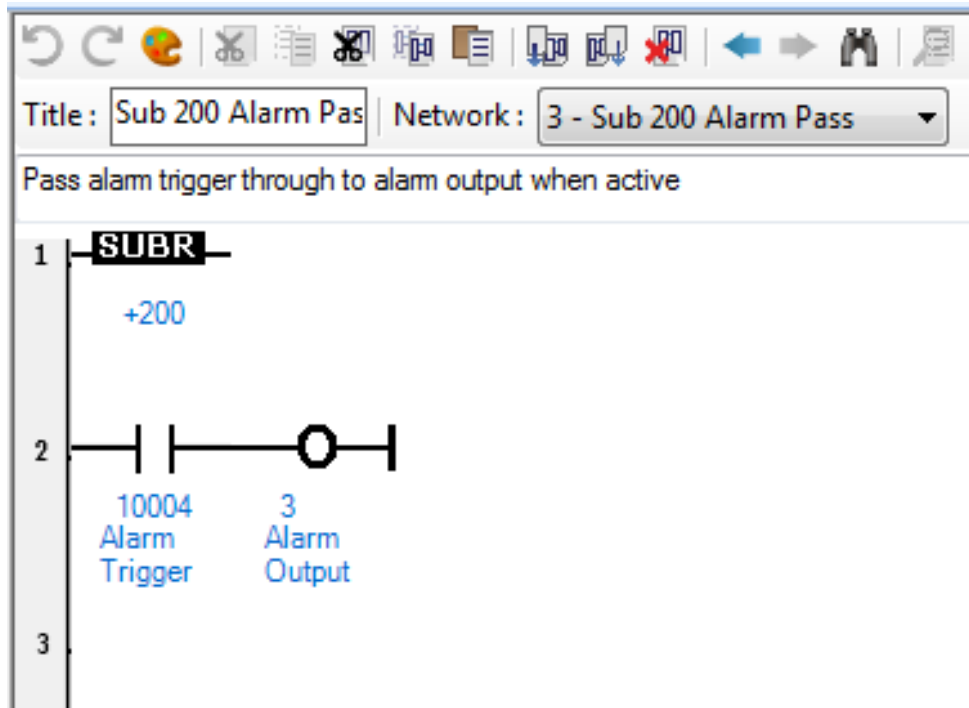

Figure 47: Subroutine 200 Nested Network
- Add a **fourth switch** controlling the third LED, as shown in Figure 47.